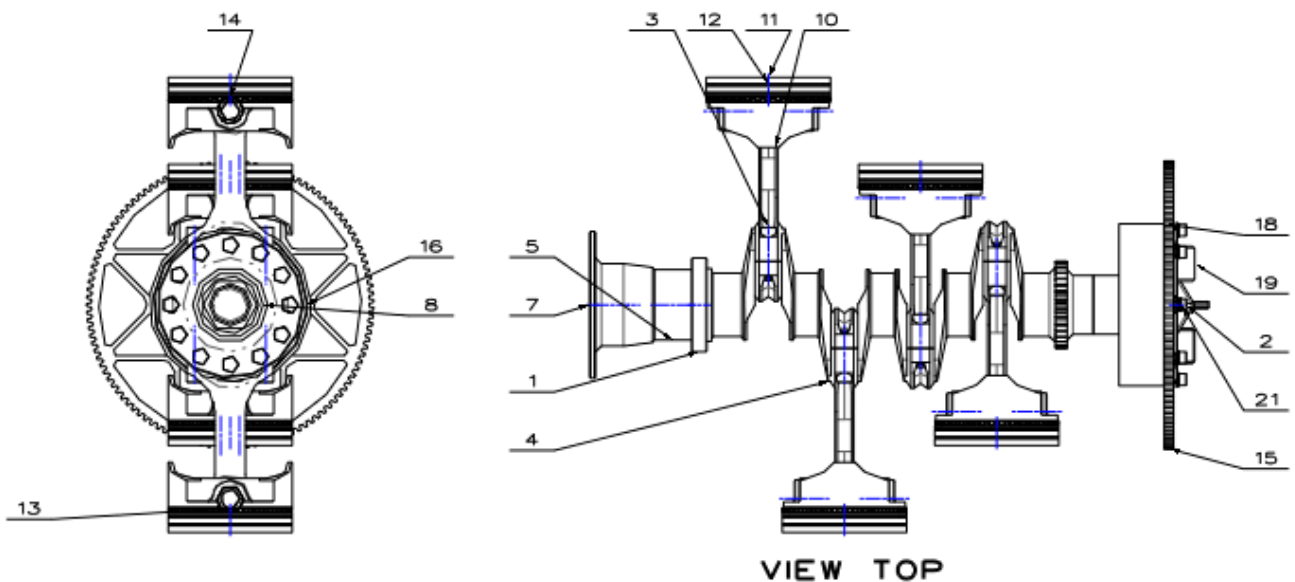

Figure108 Balloon of Cross-views
**STEP 01** Create the top view and the projection view on the left, as shown in Figure 108.
**STEP 05** Get the balloon result as shown in Figure 108.